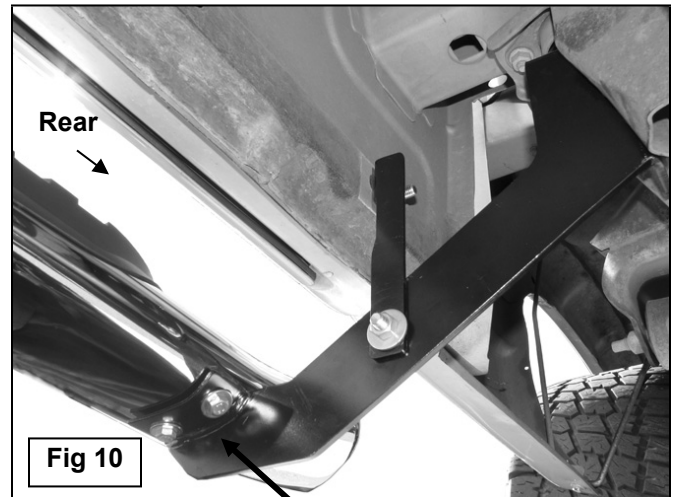

Fig 10
9. With assistance, carefully position the passenger Sidebar onto the Mounting Brackets. Partially attach the Sidebar to the front and rear Mounting Brackets with the included (4) 8mm x 25mm Hex Bolts, (4) 8mm Lock Washers and (4) 8mm Flat Washers, **(Figure 10)**. Do not tighten hardware at this time.